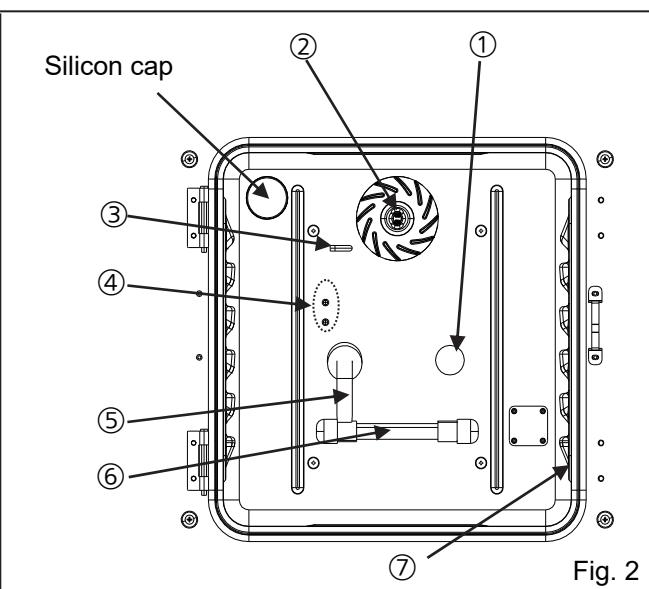

Fig. 2
Be careful that solutions such as alcohol for disinfection do not come in contact with the ① CO₂ sensor, ② fan motor shaft bearing, ③ CO₂ gas injection port, ④ temperature sensor and ⑦ inner sample air access port. Furthermore, do not clean the ⑤ humidity control bar and the ⑥ UV lamp using cleaning solvents. Use of these solutions may cause damage. (Fig. 2)